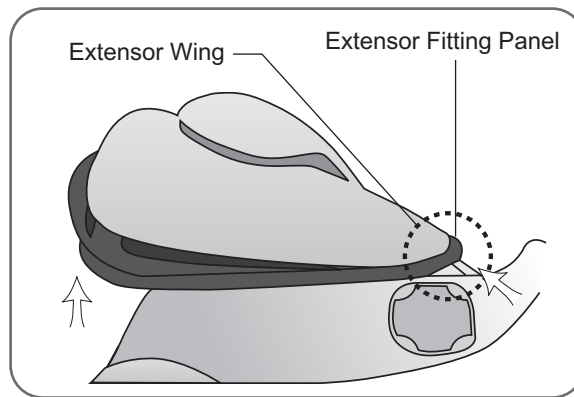

Figure 5-8: Reattaching the Extensor Fitting Panel
1. With the Orthosis wing open, align the extensor fitting panel to the extensor wing. See Figure 5-8.